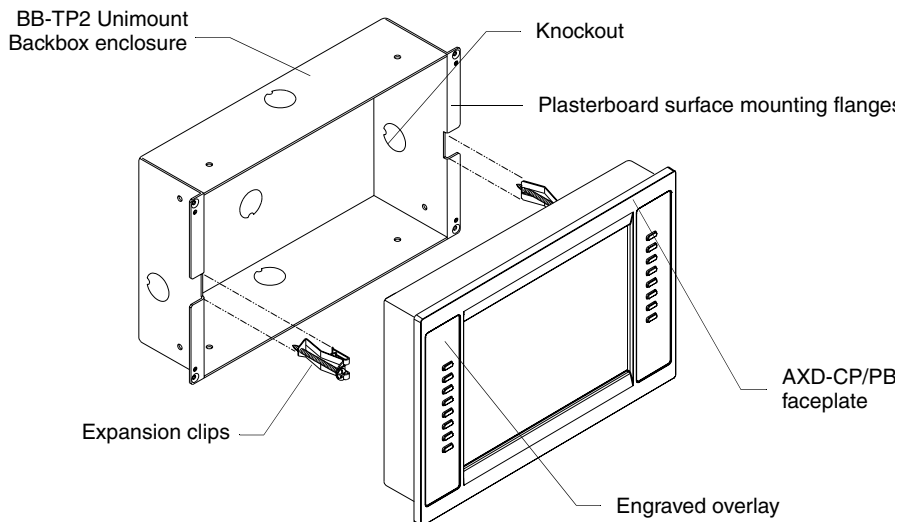

FIG. 4 AXD-CP/PB and BB-TP2 Back Box (plasterboard)
FIG. 4 shows the AXD-CP/PB and BB-TP2 Back Box for plasterboard.
4. Place the BB-TP2 into the cutout and mark the threaded insert positions (FIG. 4).